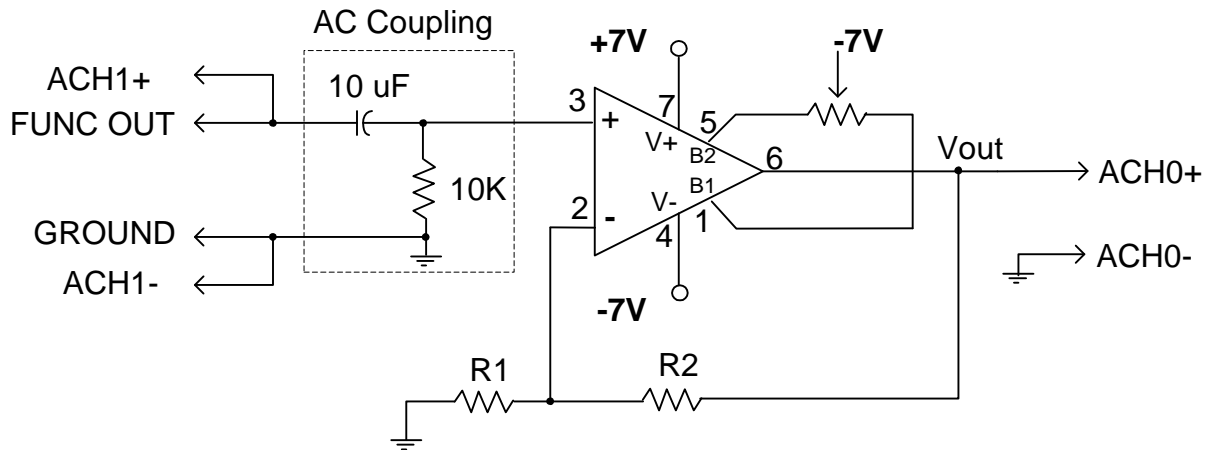

Fig. 7. Non inverting amplifier with AC coupled input and offset compensation resistor
1. Non inverting amplifier designed in the pre lab (as shown in Fig. 5) will be used to understand the finite GBW limitation of the Opamps. Since the gain of the non inverting amplifier is very large (around 100 or 40 dB), very small DC offsets in the amplifier will produce large DC output offset voltage. Hence we will use offset calibration scheme (used earlier in Lab 3, Fig. 6) to calibrate the Opamp offsets. So connect the circuit as shown in Fig. 7.
2. You would also notice that we have used AC coupling from the NI Elvis signal source to the opamp input in Fig. 7. This eliminates the DC offsets coming from the signal source and only the AC voltage swing generated by the signal generator (from Elvis) will be applied to the Opamp input terminal. The ac coupling circuit behaves like a high pass circuit with a corner frequency of around 1.6 Hz and will be transparent for higher frequency ( $> 1.6$  Hz) operation. The potentiometer (**20K**) as shown in Fig. 7 between terminals 1 & 5 is for offset calibration. Make sure the wiper of the potentiometer is connected to  $-7V$  supply. We will use this potentiometer to trim the offsets coming from the opamp.